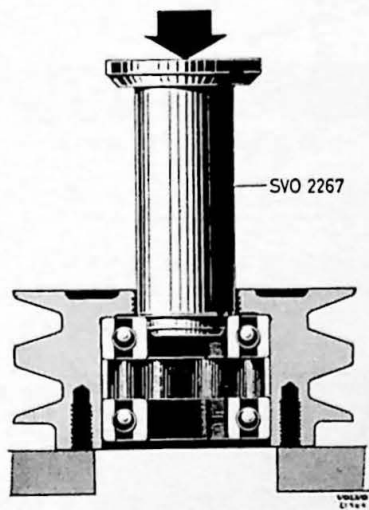

Fig. 1-136. Removing bearing.
6. Lay the pulley on a press plate with the front section downwards. Make sure that the bearings are free and then press out the bearings with the help of tool SVO 2267. See Fig. 1-136.